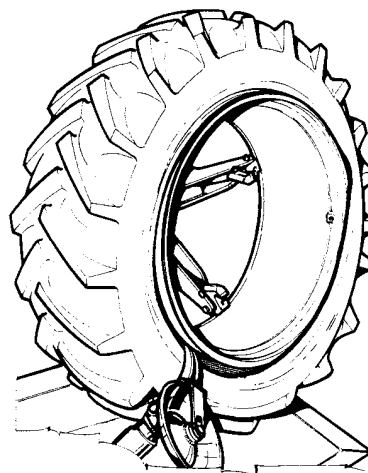

Fig.47
7. Turn the chuck counter-clockwise until the outer bead is completely demounted (Fig.47).